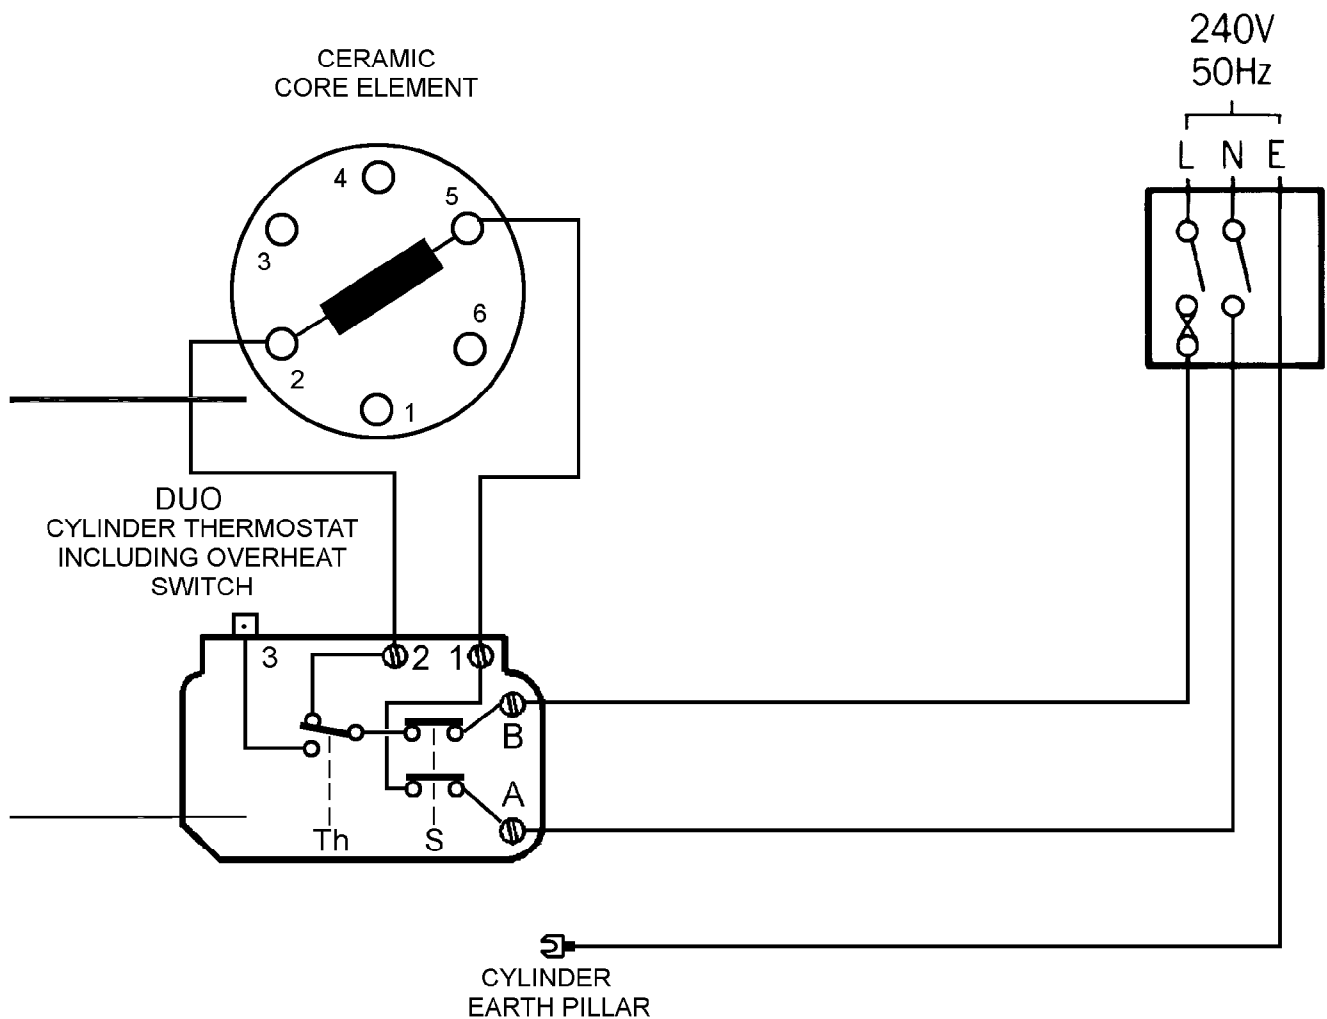

Fig. 7 - Wiring for electrical element
- Connect the main electrical supply to the thermostat as shown in the diagram (Fig. 7) using PVC insulated cable of not less than 2,5 mm²